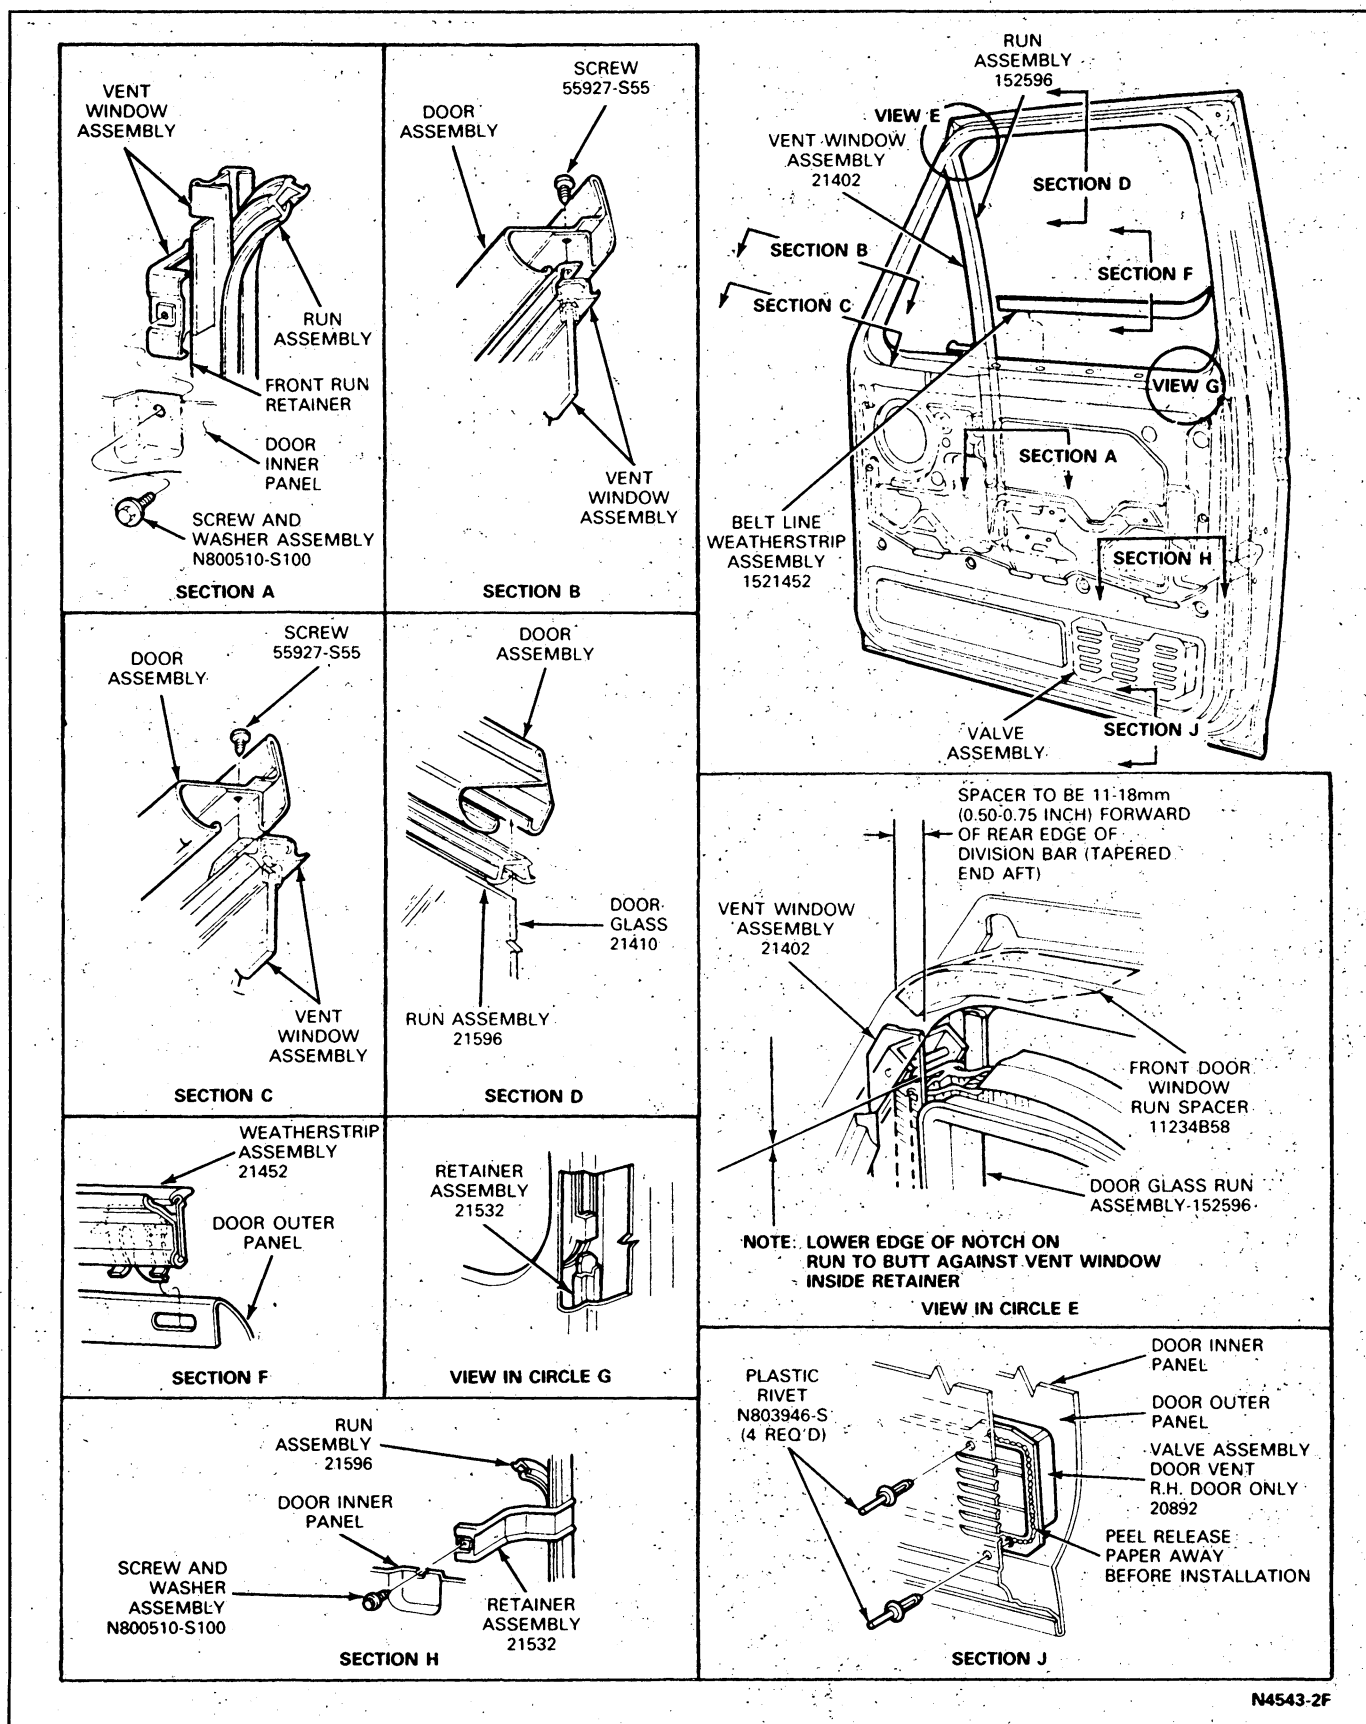

FIG. 3 Front Door Window Glass—F-150—F-350, F-Super Duty and Bronco
2. Remove the screw retaining the division bar to the door inner panel (Fig. 3, Section A).
5. Position the vent window and division bar assembly into the door and to the glass edge. Ensure front door window spacer (Fig. 3, View E) is in place.